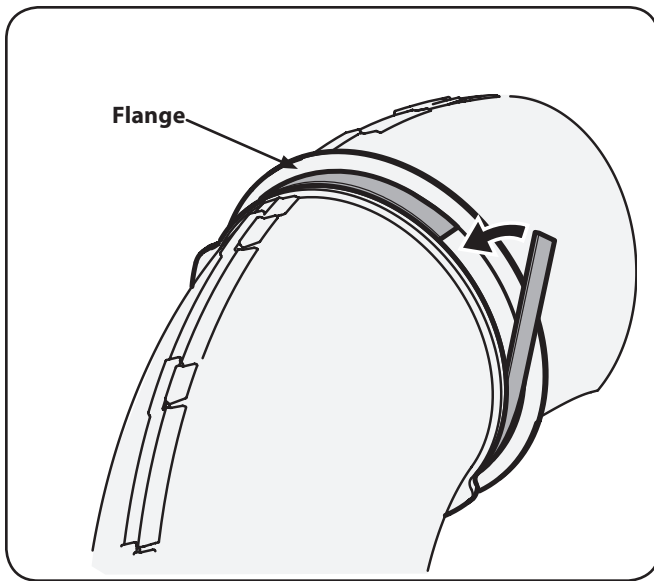

Figure 4-18
7. Peel the backing off of the self-adhesive foam strip (721-04388) that has been included with your grass collector. Apply it to the upper chute, flush against the flange as shown in Figure 4-18.